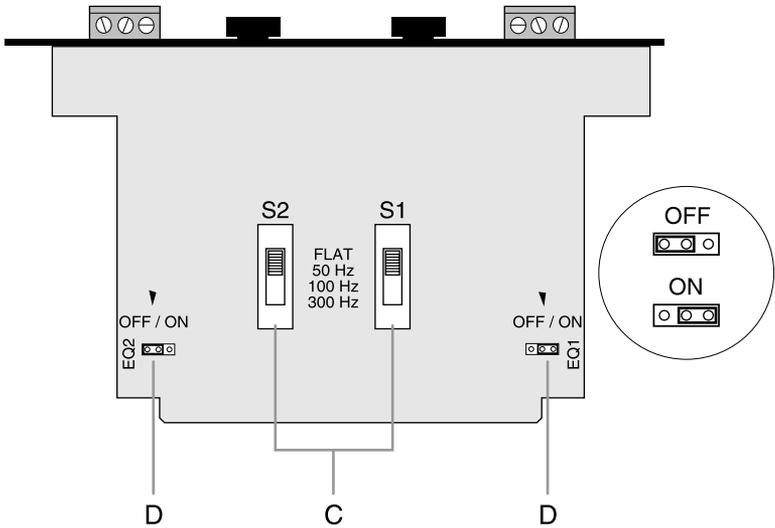
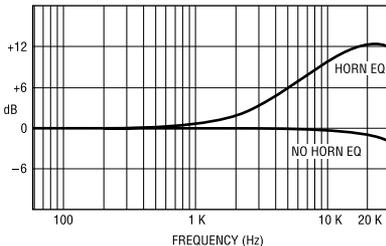
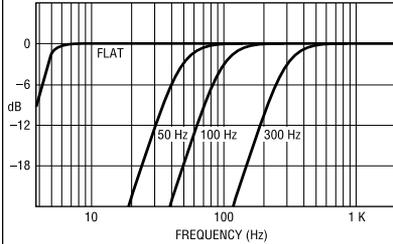

Fig. 1.2 Bottom View
Fig. 2.1 Constant-Directivity Horn Equalization (with RFI filter)
Fig. 2.2 Subsonic/Bass Filter Settings
A 4-position slide switch for each channel (Figure 1.2) controls the subsonic/bass filter. This filter is an 18 dB/octave Butterworth high-pass filter which can be selected to attenuate frequencies below 50 Hz, 100 Hz or 300 Hz. It can also be switched off (FLAT). The switch positions are labelled on the circuit board between the two switches.
A jumper is provided for each channel (Figure 1.2) to enable/disable the constant-directivity horn equalization. The jumper for channel 1 (EQ1) is shown in the ON position while the channel 2 jumper (EQ2) is shown in the OFF position. This equalization circuit is a 6 dB/octave shelving network with a 3 dB rise at 3.2 kHz and a peak boost of 12.5 dB at 24 kHz.
1. Adjust the constant-directivity equalization jumper of each channel to be ON or OFF (see Figure 1.2). Figure 2.1 shows the frequency response through the P.I.P.–ATNJ when this filter is on.
2. Select the desired position for the Subsonic/Bass filter switch for each channel. Sliding the switch to the FLAT position switches off the filter. The switch positions are identified on the circuit board between the two switches (see Figure 1.2). Figure 2.2 shows the frequency response through the P.I.P.–ATNJ when this filter is set in each of its four modes
(subsonic/bass) filter has selectable -3-dB roll-off points of 50, 100 or 300 Hz (see Figure 2.2). Constant-directivity horn equalization network has 3-dB rise at 3.2 kHz with 12.5-dB peak at 24 kHz (see Figure 2.1). Both these filters can be switched off if desired.